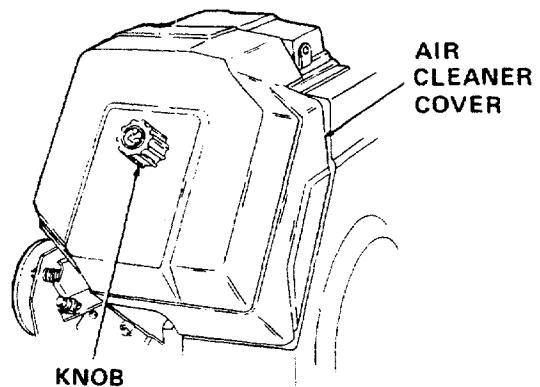

Figure 24. Air Cleaner Housing Components
1. Remove the air cleaner cover retaining knob, air cleaner cover and paper element with foam precleaner. (See Figure 24.)
- Remove the air cleaner cover retaining knob, air cleaner cover and paper element with foam precleaner. (See Figure 24.)